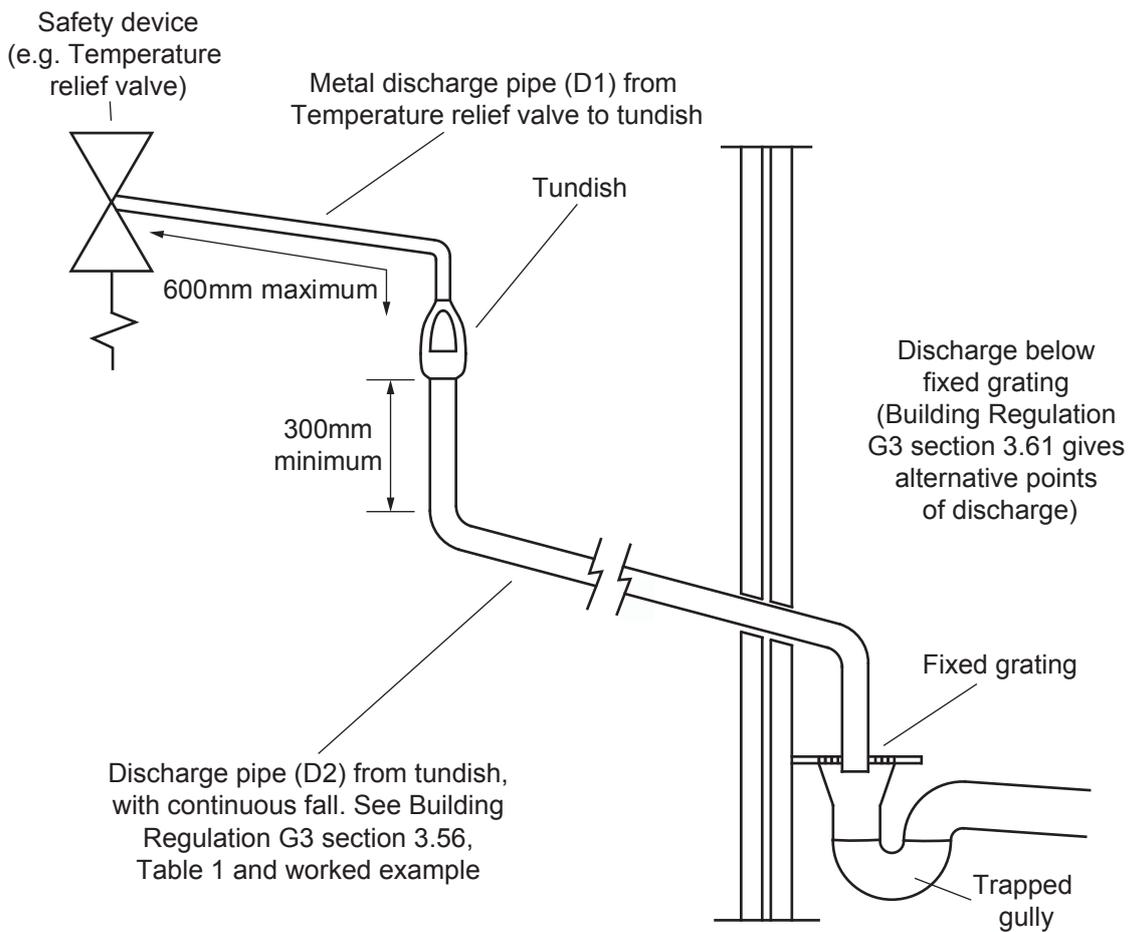

Figure 11: Typical discharge pipe arrangement (extract from Building Regulation G3 Guidance Section 3.50)
3.54 The tundish should be vertical, located in the same space as the unvented hot water storage system and be fitted as close as possible to, and lower than, the valve, with no more than 600mm of pipe between the valve outlet and the tundish (see Fig. 11, page 18).
- (a) have a vertical section of pipe at least 300mm long below the tundish before any elbows or bends in the pipe work (see Fig. 11); and*
3.58 The discharge pipe (D2) should be at least one pipe size larger than the nominal outlet size of the safety device unless its total equivalent hydraulic resistance exceeds that of a straight pipe 9m long, i.e. for discharge pipes between 9m and 18m the equivalent resistance length should be at least two sizes larger than the nominal outlet size of the safety device; between 18 and 27m at least 3 sizes larger, and so on; bends must be taken into account in calculating the flow resistance. See Fig. 11, Table 5 and the worked example.
Fig. 11 (page 18): shows a G1/2 temperature relief valve with a discharge pipe (D2) having 4 No. elbows and length of 7m from the tundish to the point of discharge.